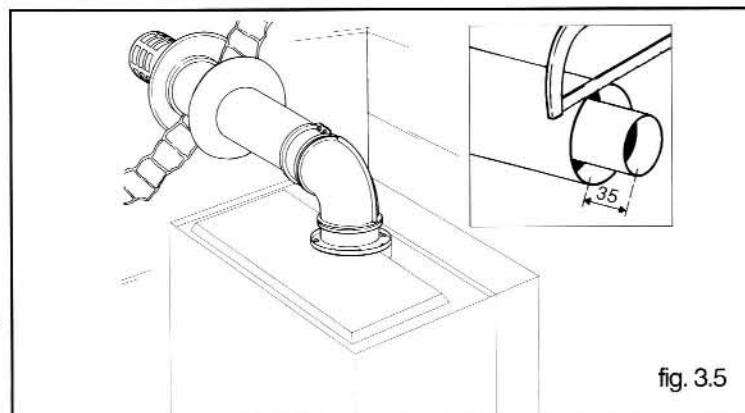

fig. 3.5
- 1 - Minimum flue length 'S' 500 mm (see fig. 3.5)